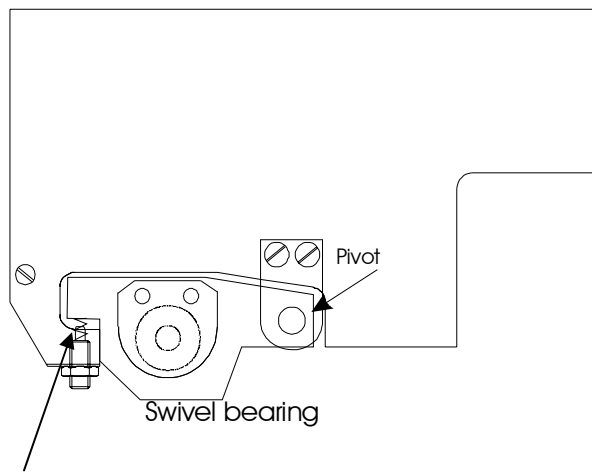

Fig. 6
8. Put on swivel bearing plate, screw on support plate to pivot and insert pressure spring and screw. Tighten screw until an air gap of approx. 2-3 mm remains between bearing plate and screw (Fig. 6/1).